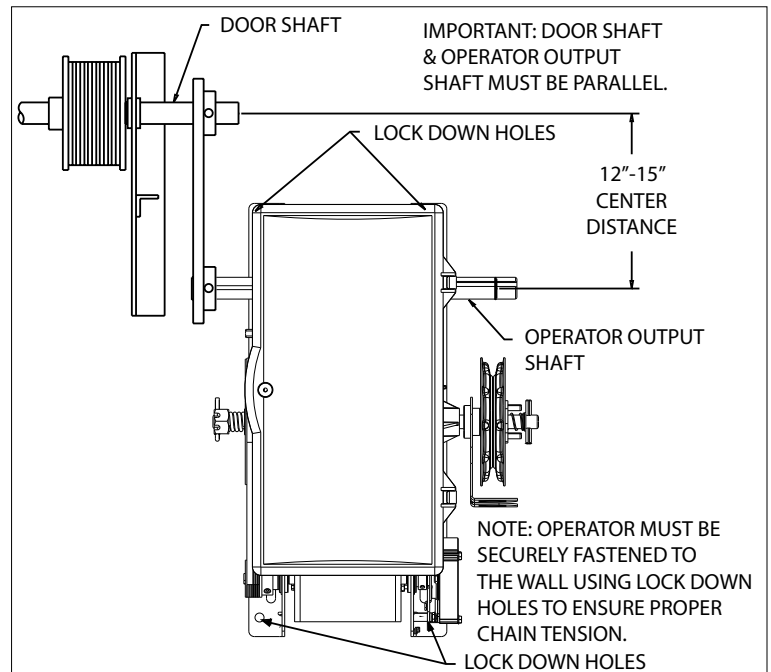

FIG. 2
8. Align chain and secure operator to wall or mounting pad using lock down holes. FIG. 2.
NOTE: If using slotted mounting holes to mount unit, you must use at least two lock down holes in opposite corners to firmly mount unit to wall. FIG. 2.